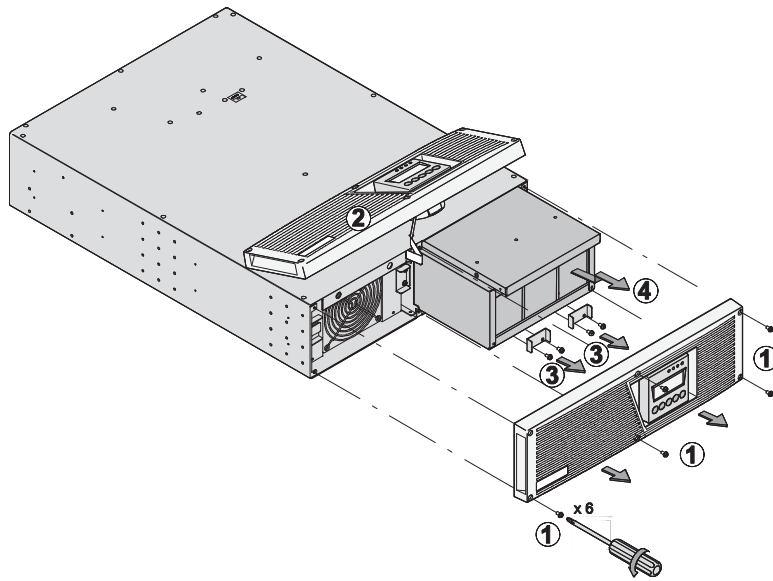

Figure 5. Removing the Battery Tray
2. **Recommended.** Remove the UPS battery tray (see Figure 5):